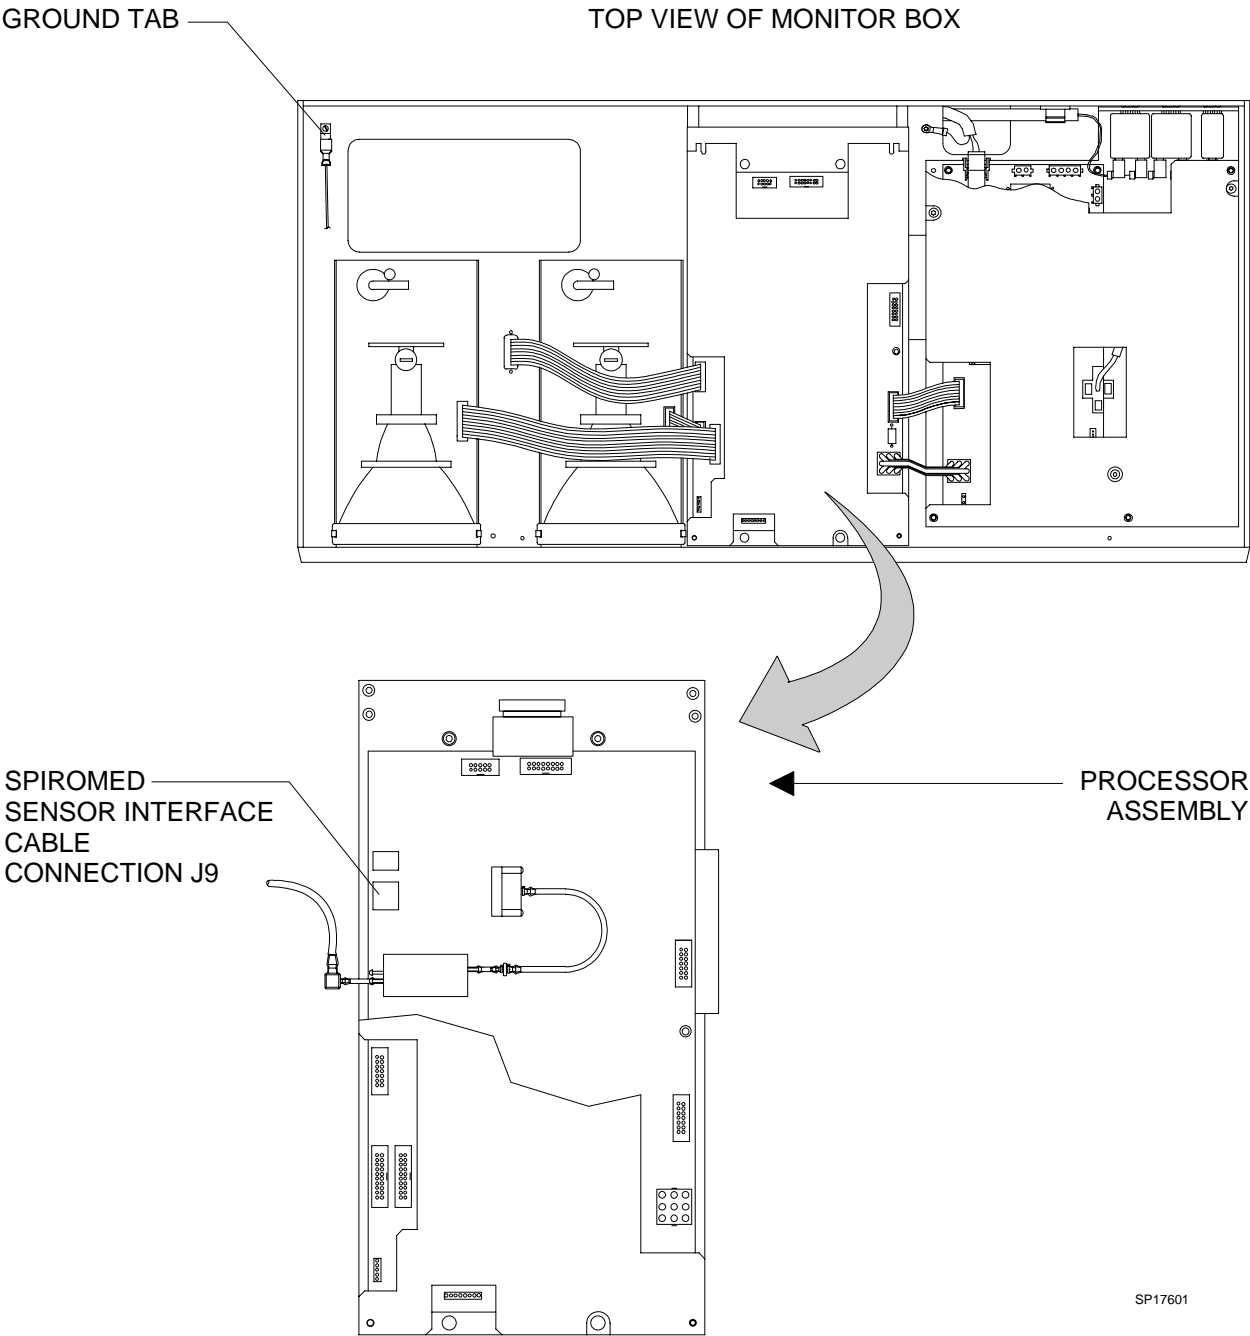

Figure 1. Spiromed Sensor Interface Cable Connection
6. Disconnect the Spiromed sensor interface cable from J9 on the processor PCB assembly. See Figure 1.
13. Join the connector end of the new interface cable to J9 on the processor assembly (ref. Figure 1).